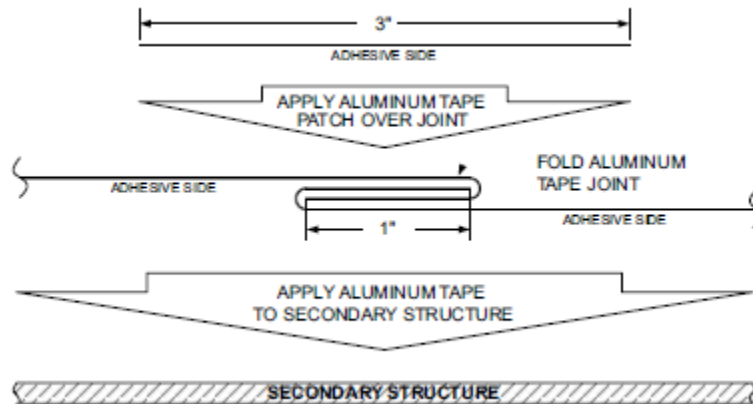

Figure 4-50 Aluminum Tape Joint
7. If two pieces of tape need to be joined end-to-end, they can be joined as illustrated in Figure 4-50.